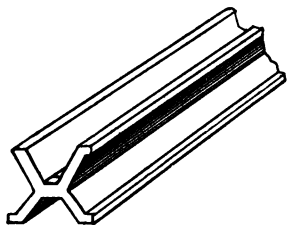

FIG. 1. — The international meter.
**7. Meter and yard.** The meter is the distance between two lines on a metal bar (Fig. 1) which is preserved in the vaults of the International Bureau of Weights and Measures near Paris.\*